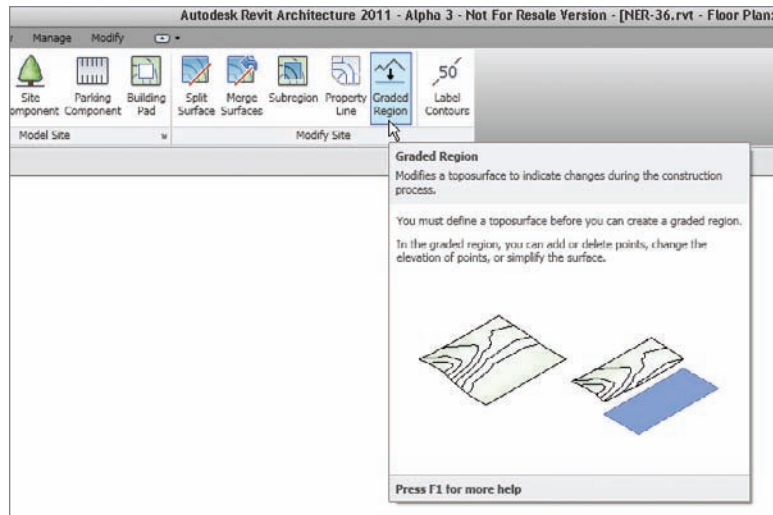

FIGURE 18.27 The Graded Region button
7. On the Massing & Site tab, click the Graded Region button, as shown in Figure 18.27.